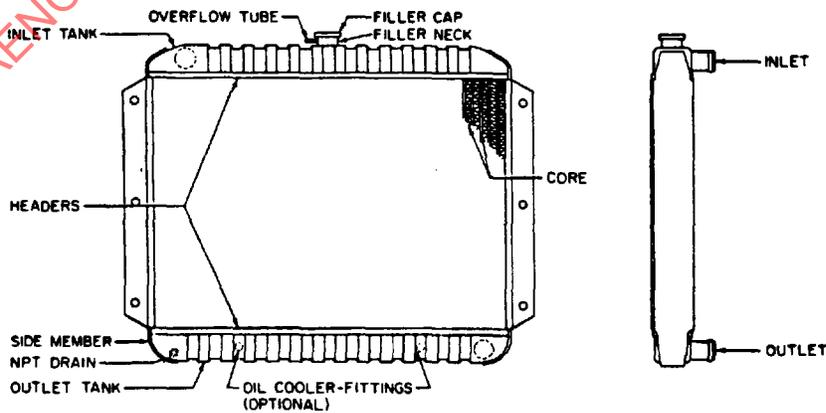

FIGURE 6—AUTOMOBILE RADIATOR (DOWN FLOW)
3.5 Plastic Tank Radiators—Figures 6 and 7 can also represent radiators having plastic inlet and/or outlet tanks. Inlet and outlet are integral with the appropriate tank. The filler neck and other parts and/or fittings may also be integrated with a tank. Tanks are gasketed and secured to the headers.